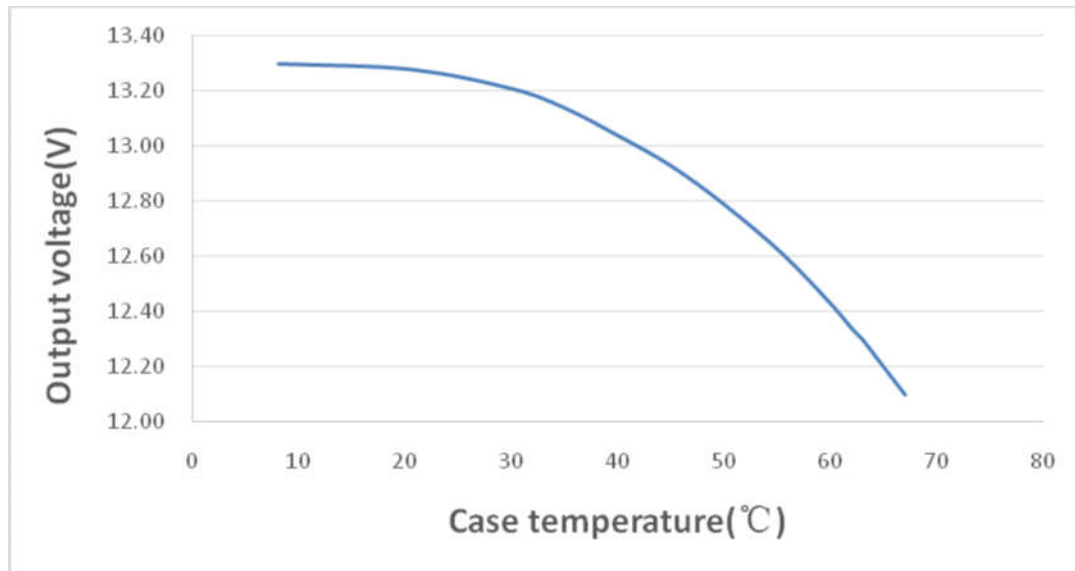

Fig.7
5.2 Test conditions: Input voltage: 60V, Load resistance: 0.4Ω. The converter is equipped with an aluminum heat sink. Output voltage and output current are shown in figure 7 and 8.